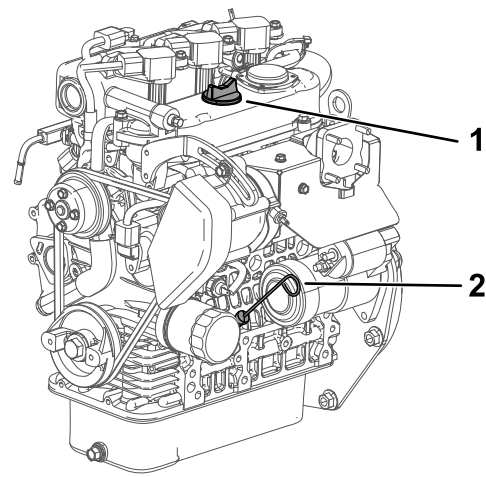

Figure 35
5. Insert the dipstick into the tube and ensure that it seats fully (Figure 35).
6. Remove dipstick and check the oil level (Figure 35).
7. If the oil level is low, remove the filler cap (Figure 35), and add enough oil to raise the level to the Full mark on the dipstick.
4. Remove the dipstick and wipe it with a clean rag (Figure 35).
8. Install the dipstick firmly in place (Figure 35).